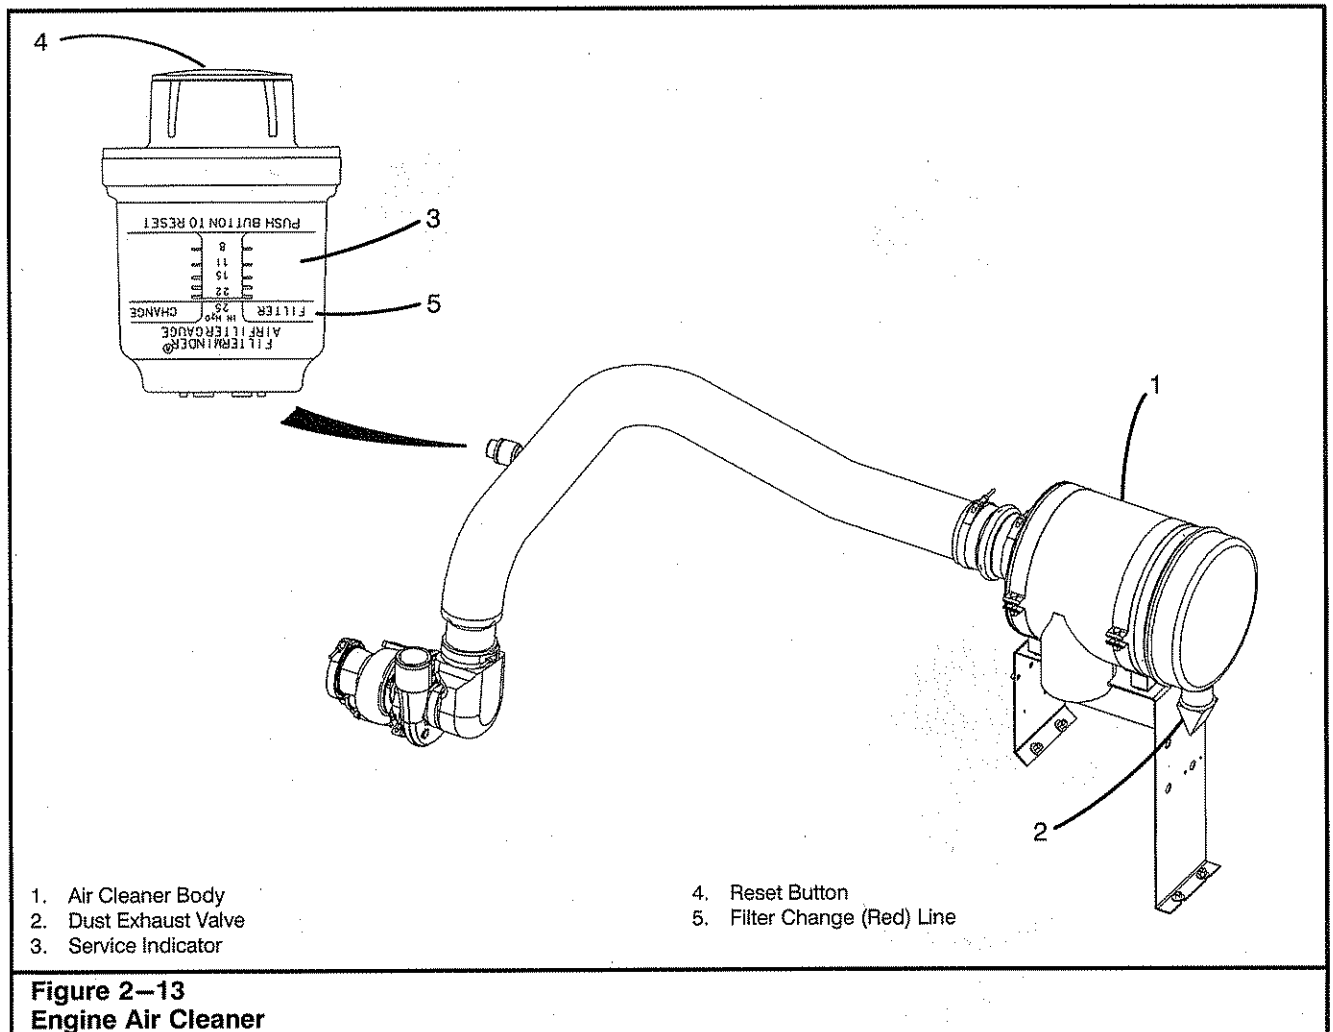

Figure 2-13
Variations in job site conditions prevent establishing a set interval for air cleaner servicing. For this reason a vacuum operated service indicator is mounted on the air cleaner to assist in determining the condition of the air cleaner element. Refer to Figure 2-13. Anytime the yellow indicator reaches the red line, service the air cleaner immediately. Clean or replace the air cleaner element as often as required. Replace the air cleaner element after the sixth cleaning or annually, whichever occurs first. Service the engine air cleaner as follows:
2. Inspect the service indicator (Figure 2-13) to see if the yellow indicator has reached the filter change (red) line. If the yellow indicator has reached the
12. Reset the service indicator (Figure 2-13) by pressing the button on the end of it.